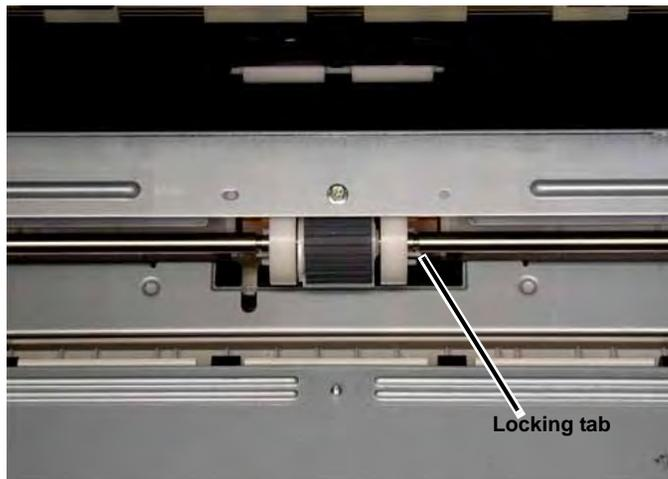

Figure 2 Roll
3. Release the Core Roll locking tab from the shaft and slide it to the front (Figure 2).